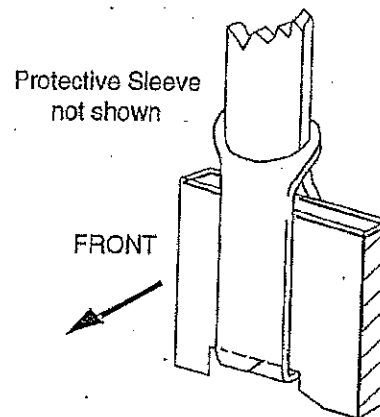

Fig. 1A
1. Position sling complete with protective sleeve into cutaway at the bottom of the first angled web nearest to the headstock. (Fig. 1A)